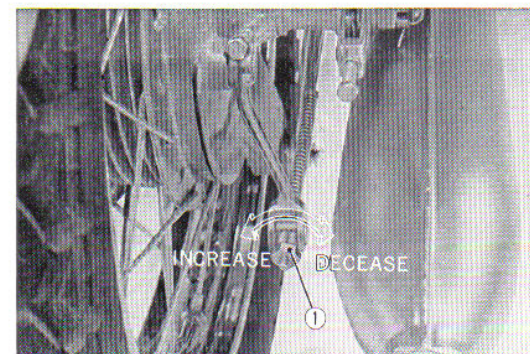

Fig. 6.40 Rear brake adjustment
① Rear brake pedal ② Free play
- b. The adjustment is made with the brake arm on the rear brake panel. Turning the adjusting nut ① clockwise will decrease the free play of the brake pedal, and turning counter clockwise will increase the free play. (Fig. 6.40)